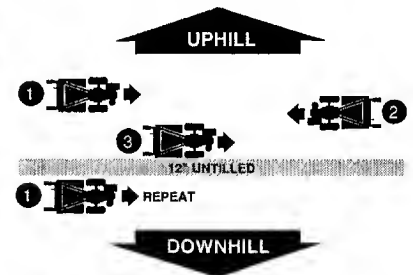

Figure 4-12
- To create a terrace, start at the top of the slope and work down. Go back and forth across the first row as shown in Figure 4-12.